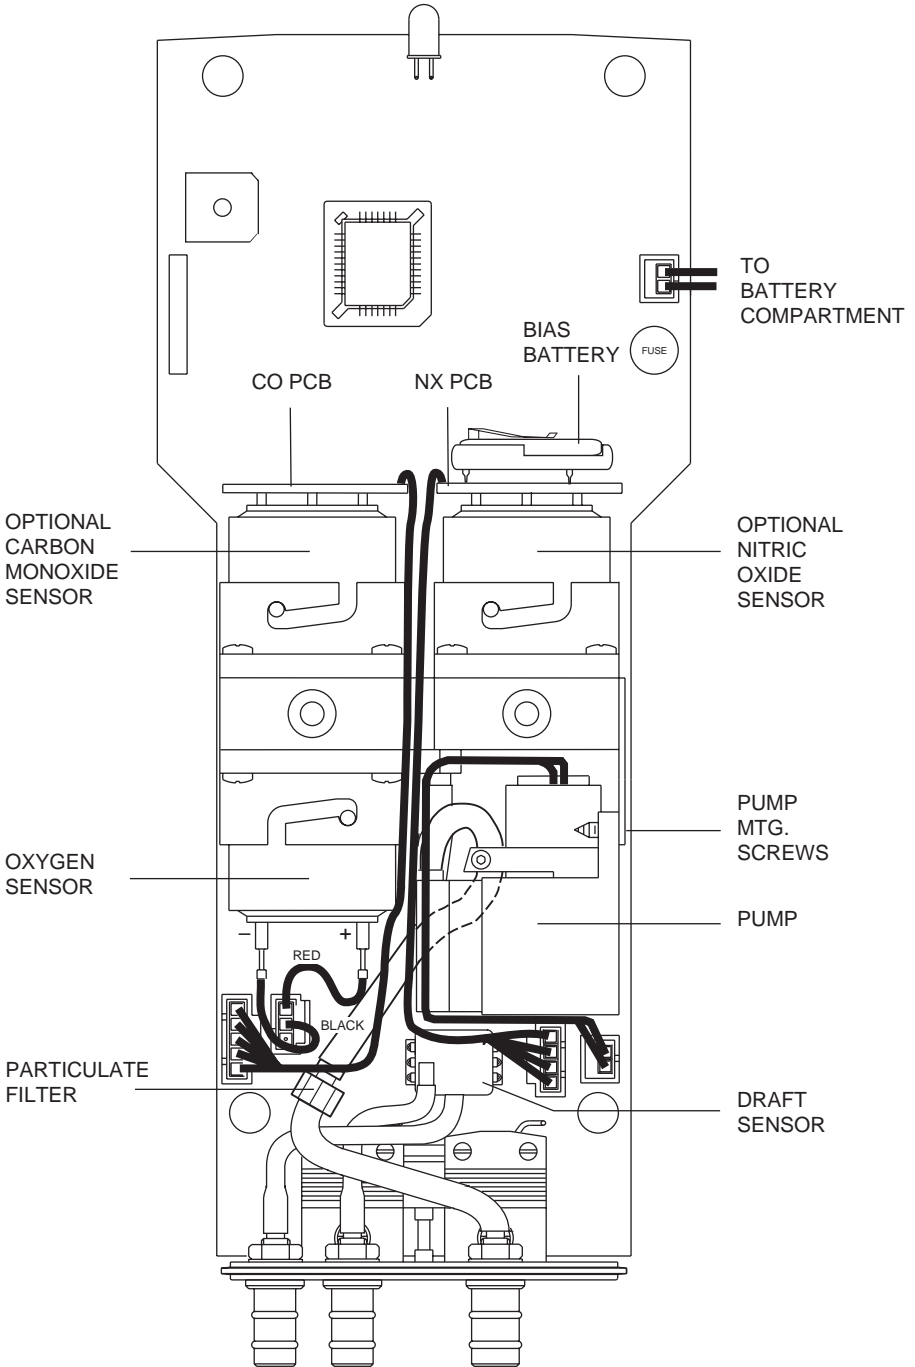

Figure 6-2. Rear View of the PCB and Sensors
The internal particulate filter (Figure 6-2) prevents small dust and dirt particles from entering and damaging the pump. Depending on your environmental conditions, it is recommended to change the particulate filter and fitting approximately every six months, or sooner if it becomes blocked.
2. Remove the Oxygen Sensor connector from the printed circuit board; then carefully pull off the two wires connected to the pins of the sensor (see Figure 6-2).
2. Carefully pull the printed circuit board off the rear of the Nitric Oxide sensor (see Figure 6-2).
A single lithium battery, located on the Nitric Oxide printed circuit board (see Figure 6-2), applies a constant bias voltage to the Nitric Oxide sensor even while the instrument is turned off. This battery has a life expectancy of at least 2 years.
2. Remove old battery from its holder (see Figure 6-2).